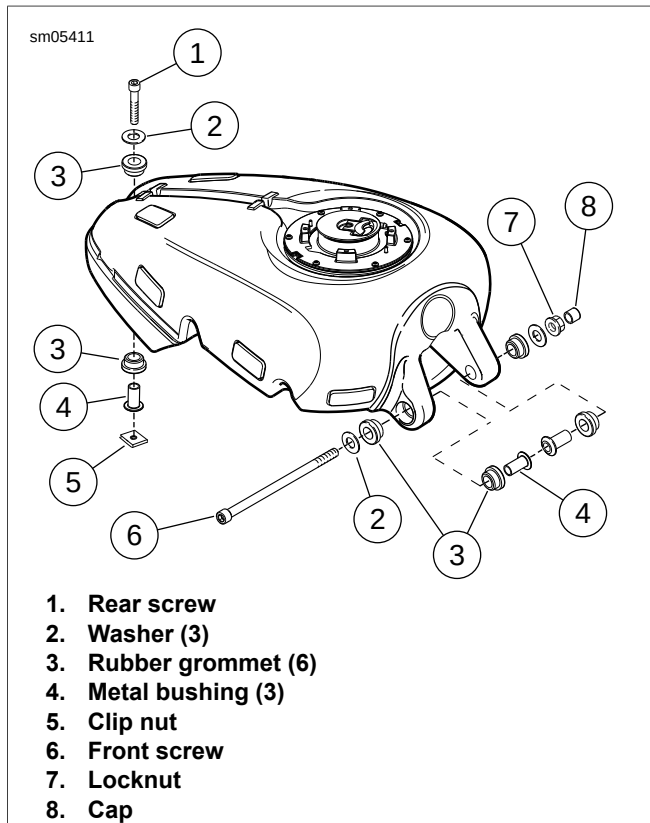

Figure 4-19. Fuel Tank Mounting
See Figure 4-19. Metal bushings (4) inside the grommets (3) may fall when fuel tank is lifted off vehicle. Make sure they do not fall out and become lost.
2. See Figure 4-19. Install rubber grommets (3) in both front mounting holes of fuel tank. Insert metal bushings (4) into rubber grommets, oriented as shown. Verify that the clip nut (5) is installed on frame bracket.